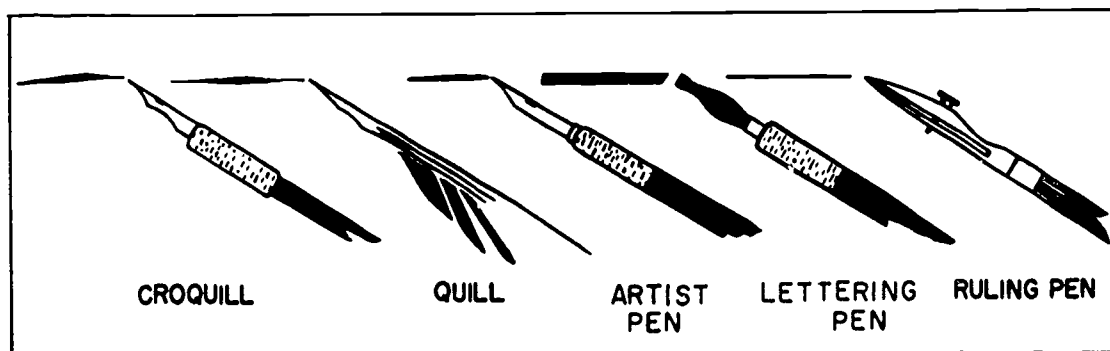

Figure 1-3. Typical drawing pens.
**Pen and Ink.** All of the techniques that use ink as a medium depend on the opacity of the ink and its capacity to contrast sharply with the illustration surface. India ink is most commonly used because it is permanent, waterproof, opaque, and nonreflective. The ink is applied with open or closed reservoir-type pens and dip pens which come in a variety of points. A few of the most common types of pens are shown in figure 1-3. Descriptions of these pens and their uses are given below: